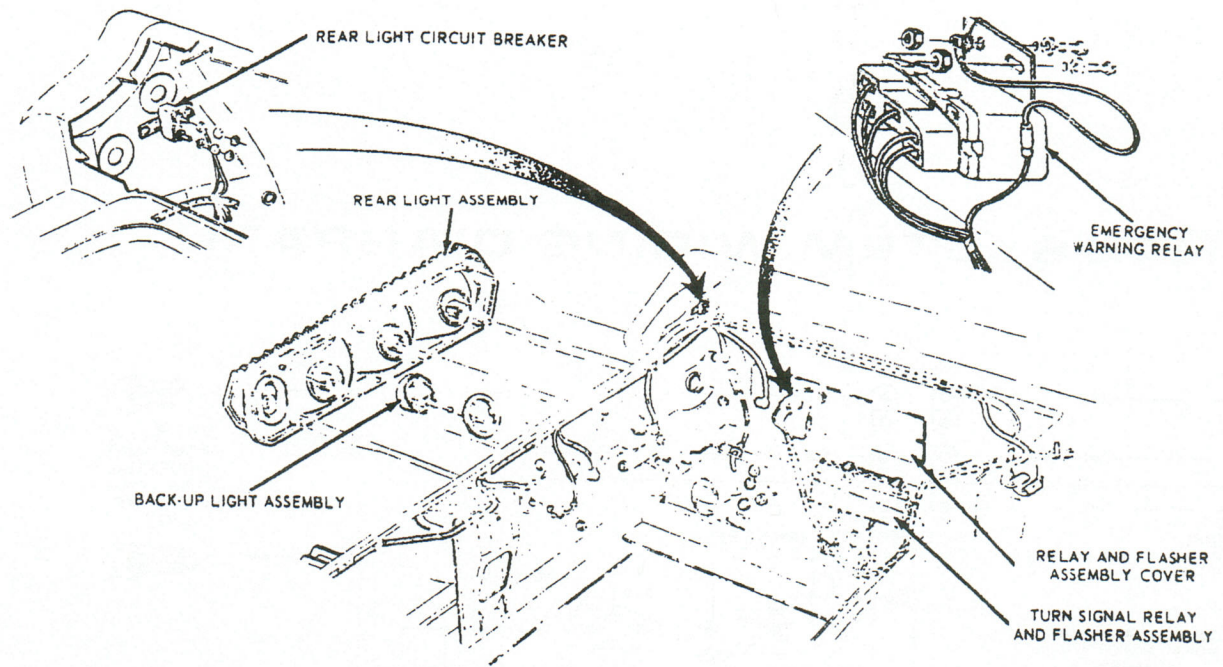

Figure 1. Turn Signal Sequencer Location
1. Locate the factory sequential system mounted under the trunk mat on the driver's side (Figure 1).
2. Disconnect all connectors from the sequencer motor, directional relay, and stop lamp relay (on early 1967 cars). Unplug the black plastic connector on the emergency relay (Figure 1). Remove the attaching nuts, bolts, and the old relays.